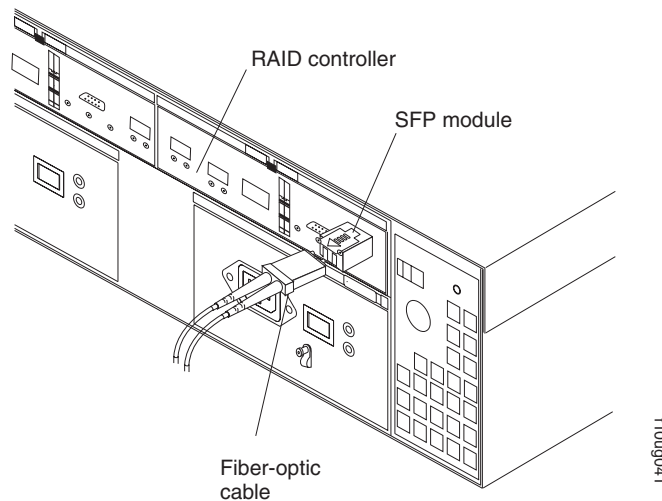

Figure 39. Connecting cables to the installed SFP
2. Connect the fiber-optic cable to the installed SFP, as shown in Figure 39.